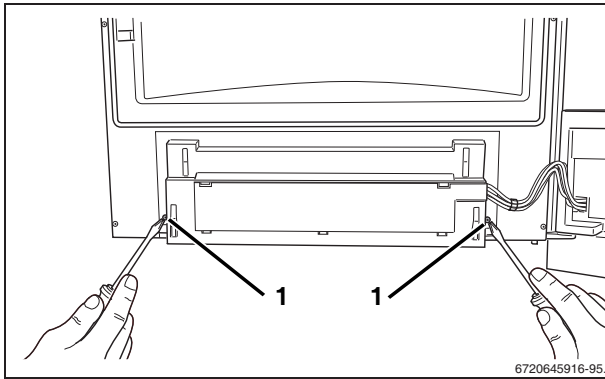

Fig. 94 Loosening the screws
- Loosen the 2 screws of the control panel at the rear side of the boiler door (fig. 94, [1]).